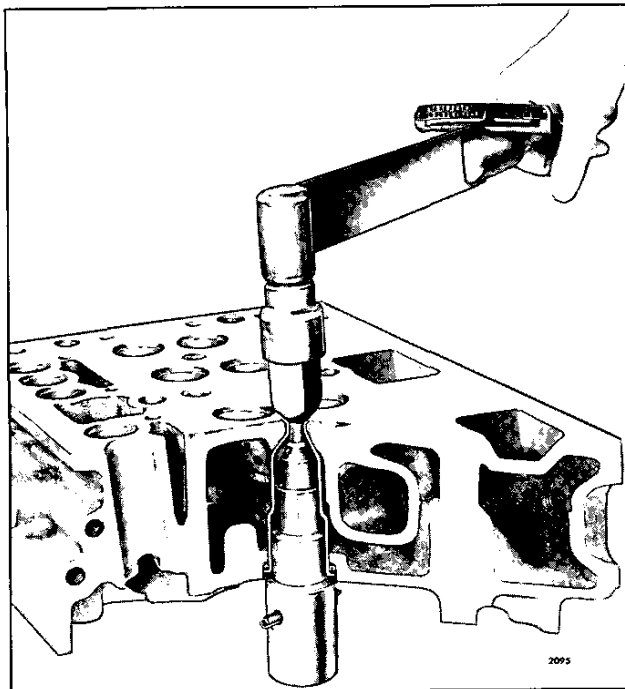

Fig. 4 – Upsetting Injector Tube Using Tools J 5286-4A and J 5286-6
- a. Turn the cylinder head bottom side up, remove the pilot J 5286-5 and thread the upsetting die J 5286-6 into the tapped end of the installer J 5286-4C (Fig. 4).